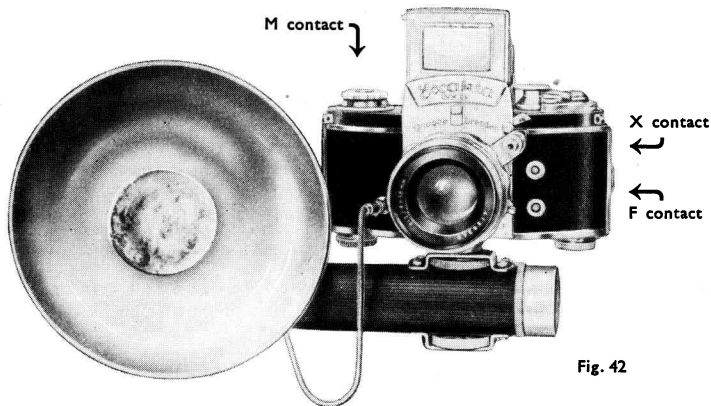

Fig. 42
If the exposed film is wound into a cartridge instead of onto the take-up spool rewinding is not necessary. As soon as the film is all used up and the film transport lever (6) cannot be moved any more, the film is cut off with the built-in knife (34). Loosen the knife release (35) by turning it to the left. It is fastened on one end of a thin bar, on the other end of which the cutting knife (34) is fixed. If you draw out the knife release (35) from the camera body (about 4 cm) (Fig. 42), the film cutter (34) crosses the film track and cuts off the film strip. Afterwards push the knob (35) back into the camera by turning it to the right. With two "blind" exposures the filmend is drawn into the
For best results with the flash-bulb synchronization, the **lhagee flashgun** (Fig. 42) is available. It consists of a battery case serving as handle, flash lamp holder with spring locking device suited for all bulb sizes and all bases of flash bulbs, reflector, and connecting cord.